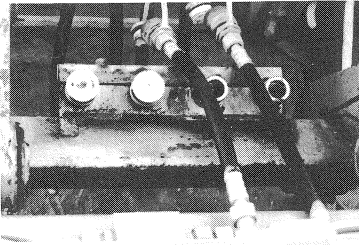

Fig. 24
- (4) Remove dust caps from rapid-action couplings (Fig. 24).